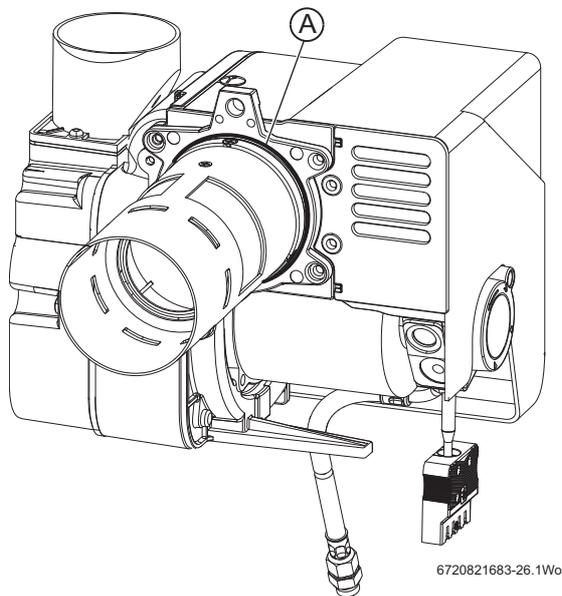

Fig. 35 12/18 Burner O-ring seal shown
- ▶ Always check that the O-ring seal (Fig. 35 item A) is in good condition before fitting the burner. Replace the O-ring seal if defective.